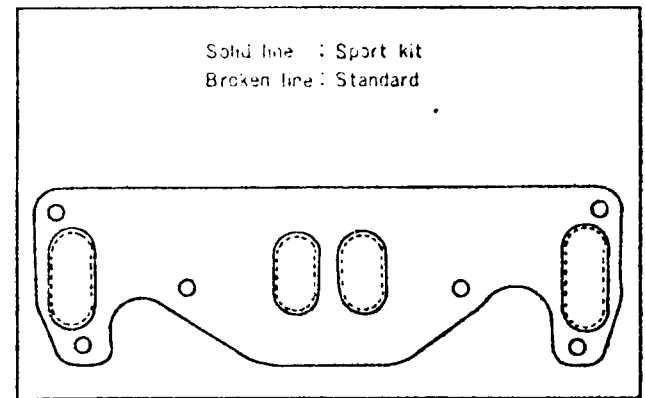

Fig. 2-8
(3) Smear blue petrolatum over the ports on the side where the intake pipes are to be attached. Then mount the modification gasket and mark lines. (See Fig. 2-8)